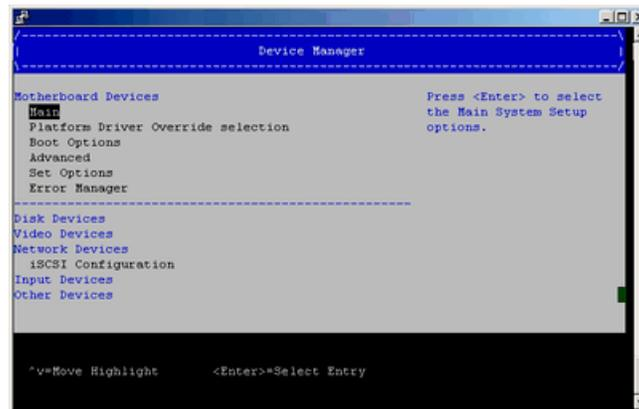

Figure 4-10 Device Manager Main Option Screen
2. From the **Device Manager** screen, select **Main**, as shown in Figure 4-10 on page 59.